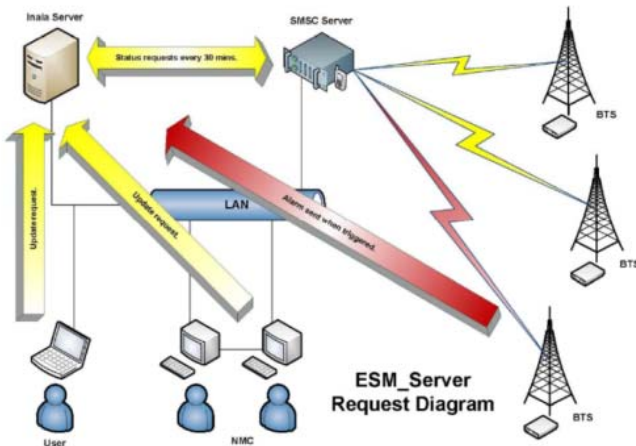

Figure 4
- The first and most commonly used option (figure 4) due to its ease of installation and integration is GSM SMS messaging or GPRS. The SAM RMS controller is fitted with a GSM modem and is configured to communicate with the central management server using the operator SMSC server and SMPP connection.